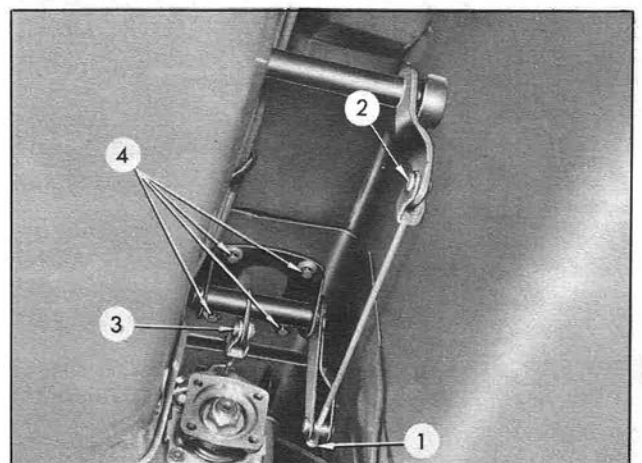

Fig. BR-34 Removal of hand brake
4. Remove four bolts ④ (shown in the Figure BR-34), and remove the center arm assembly from the floor.